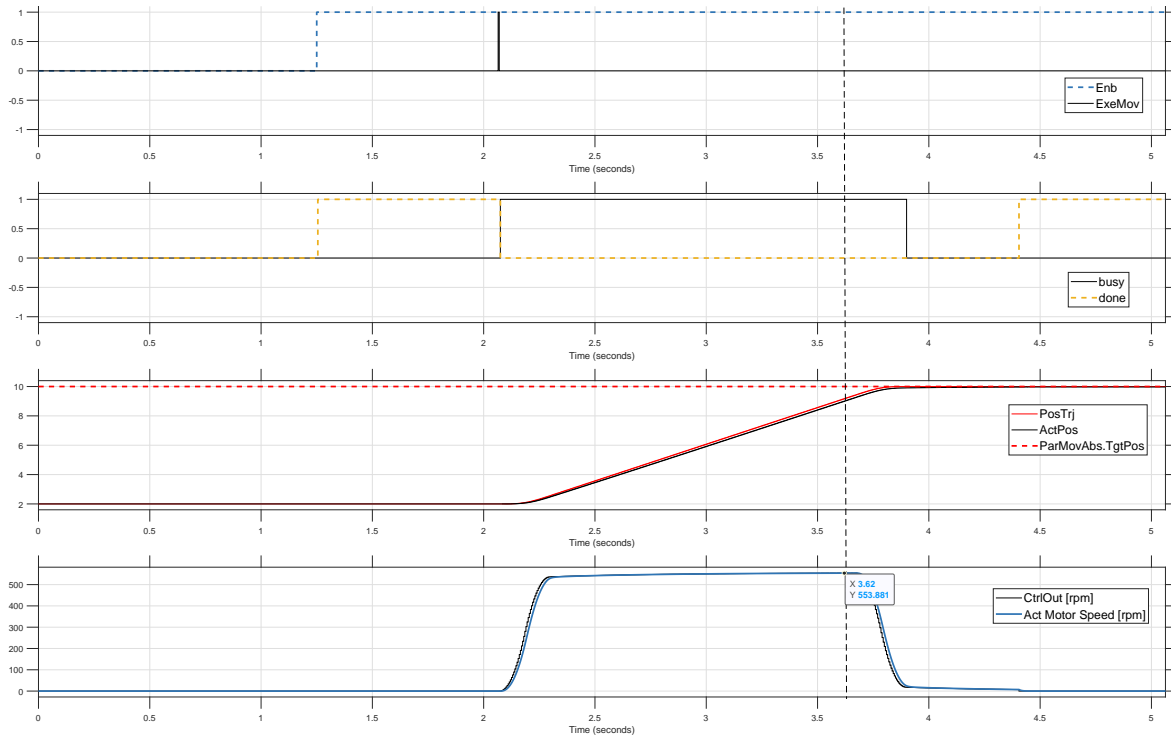

Figure 21: Adjusted Feedforward parameters ($K_p = 200$, $K_i = 0.0$, $GainFwdSpdCtrl = 104.1$, $GainBwdSpdCtrl = 0.0$, Window = 0.2mm, TuneTime = 0.3s)
the example shown in figure 21. The $MaxSpdSetPnt$ was set to $5 \frac{mm}{s}$. The motor speed is 520.52rpm. The value for $GainFwdSpdCtrl$ is then calculated by
- Refine $GainFwdSpdCtrl$: Determine the positive feedforward gain again by observing the highest motor speed during the movement. Divide this by the set speed value ($MaxSpdSetPnt$) and update $GainFwdSpdCtrl$ with this value. See figure 21.